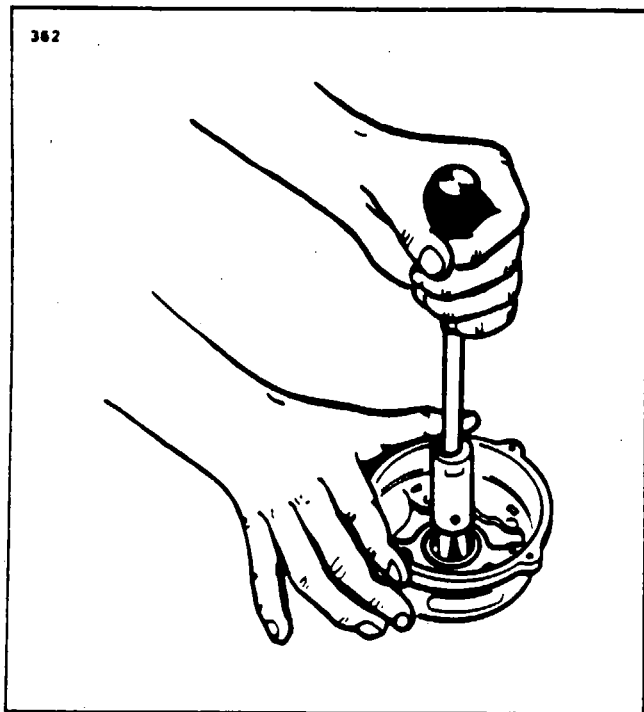

Figure 24-3. Removal of Slip Ring End Bearing
5. To remove the slip ring end bearing and grease seal, it will be necessary to have a hook type or impact type bearing puller as shown in Figure 24-3. Do not remove the bearing unless replacement is necessary.